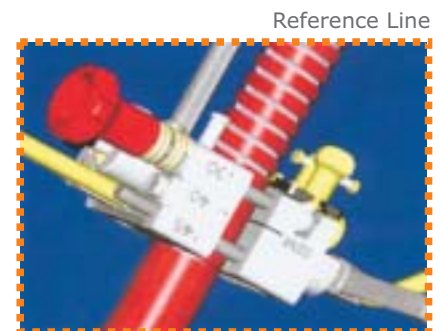

FIGURE 3 ▶
- Draw a reference line on the outer sheath, at the stripping point plus 50 mm for the MF3/40 or plus 52 mm for the MF3/60 (the width of the tool) (Figure 3).